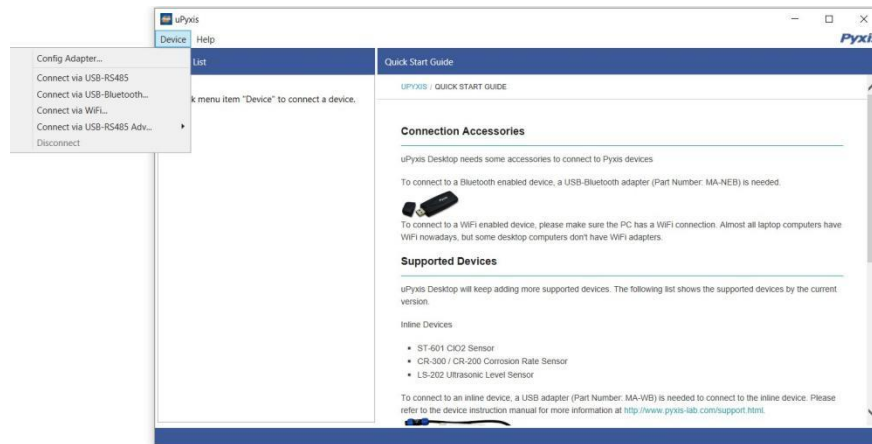

Figure 18 - Connecting to the uPyxis® Desktop App
3. On **uPyxis®** Desktop App, click Device → Connect via USB-Bluetooth (Figure 18).
4. If the connection is successful, the LS-200 and its Serial Number (SN) will be displayed in the left pane of the **uPyxis®** window.